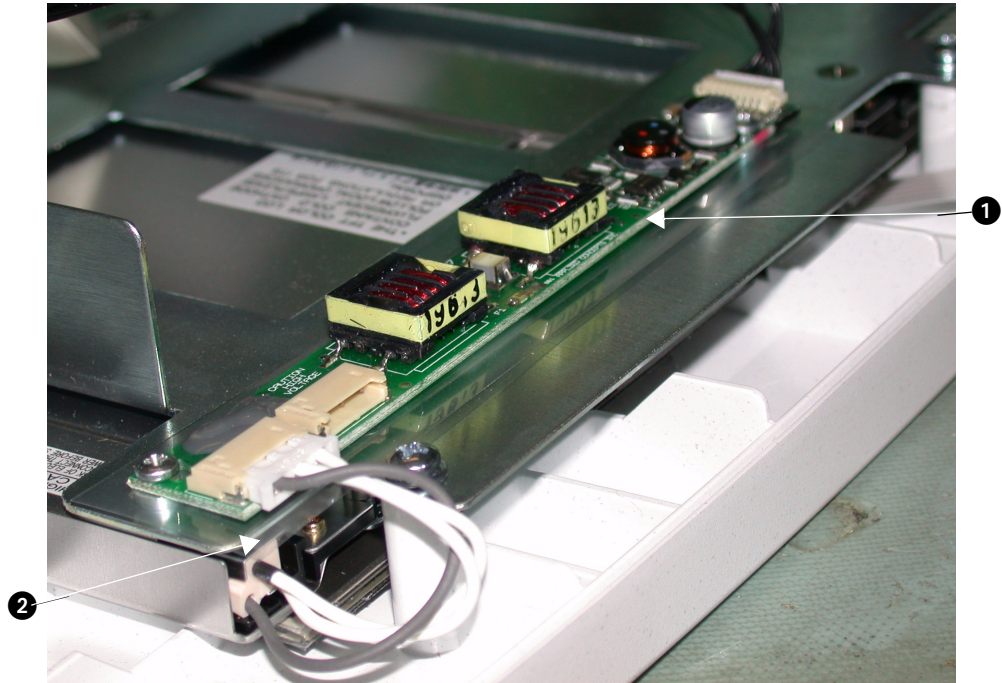

Figure 4-8: Backlight inverter
- 6 When replacing the backlight inverter, be sure to replace the mylar shield (*Figure 4-8*) between the PCBA and the chassis.